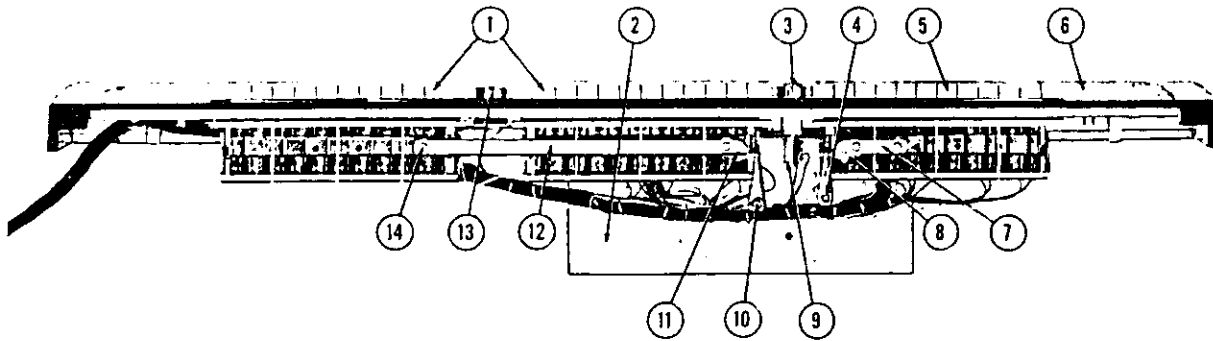

Fig. 11. SELECTOR SWITCH ASSEMBLY
c. The selector switch assembly shown in Figure 11 performs the same electrical functions as the selector switch assembly for the Model 2100 (Pages 11 and 12, section 5, of this volume). However the physical arrangement of its components, as shown in Figure 11, has been changed to conform with the design of the Model 2250. The selector switch assembly is made up of two letter switch banks (Item 1, Fig. 11) of ten letters each and one number switch bank (Item 5) of ten numbers. The latch bars of the two letter switch banks are linked together by the connector link (Item 12) which may be adjusted at the screw (Item 14) to synchronize the latching action of the two selector switch latch bars. Adjustment to minimize the back lash in the latch linkage, has been provided at the two adjustment clips (Items 11 and 8) where they are linked to the two "shaft, link, and lever" assemblies (Items 10 and 4). Latching action is thus provided by the latch solenoid on the opposite side of the "mounting plate, switch, and solenoid assembly" (Item 2). When any letter or number button is pressed all the way in, it will be latched "in" and the remaining letter or number buttons will be latched "out" until selection has been completed or the "Reset Switch" used to momentarily release the latch solenoid. The